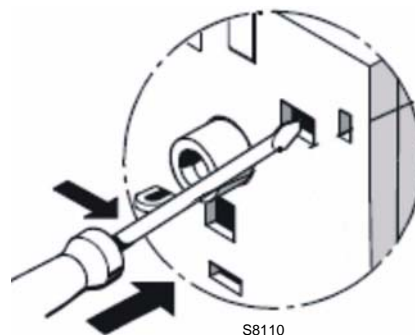

Fig. 32
- **Contact test NC (95-96) and NO (97-98)(Fig. 32)**